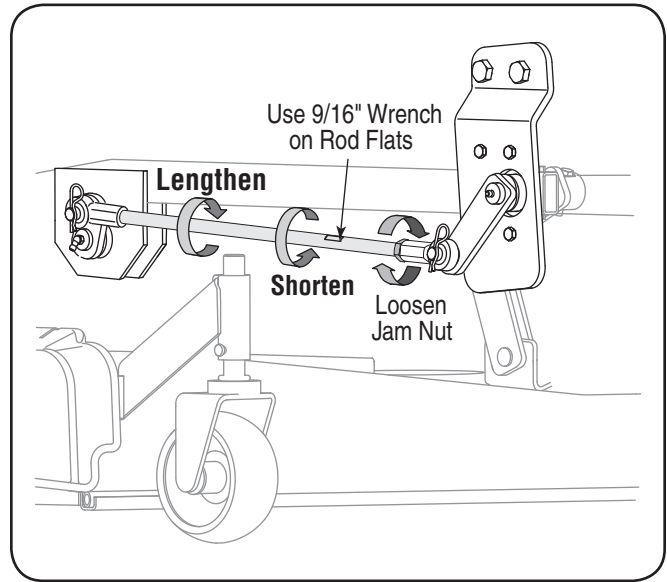

Figure 22
- If adjustment is necessary, loosen the jam nuts and turn them away from the ball joints on the front end of the front lift rod assembly on each side of the tractor. See Figure 22.
- On each side of the tractor, use a 9/16" wrench on the flats of each rod to turn the rod. Turn each rod as shown in Figure 22 to shorten the rod and raise the front of the deck, or to lengthen the rod and lower the front of the deck.